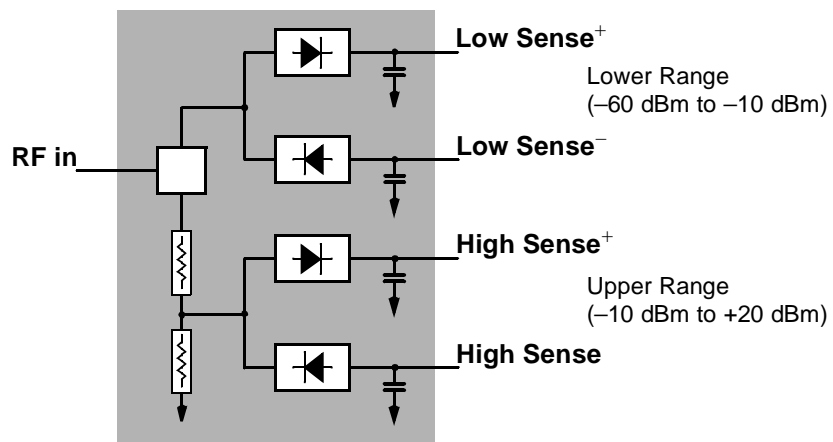

Figure 1-2 Simplified Block Diagram of Diode Pair/Attenuator/Diode Pair
- Figure 1-2 Simplified Block Diagram of Diode Pair/Attenuator/Diode Pair 4
The U2000 Series USB power sensors are true average, wide dynamic range RF microwave power sensors. They are based on a dual sensor diode pair/attenuator/diode pair proposed by Szente et. al. in 1990¹. Figure 1-2 shows a block diagram of this technique.